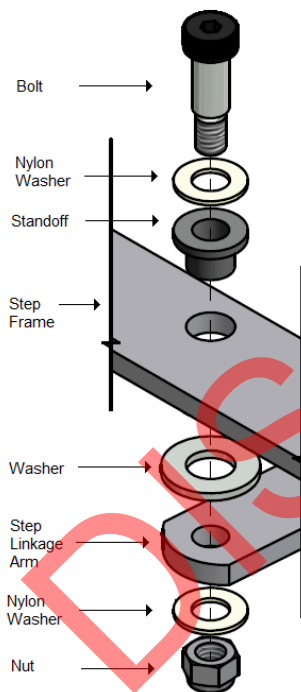

Figure 5 Parts locations
- 5) Assemble parts in correct order and tighten to 15-19 foot pounds (See Figure 5)